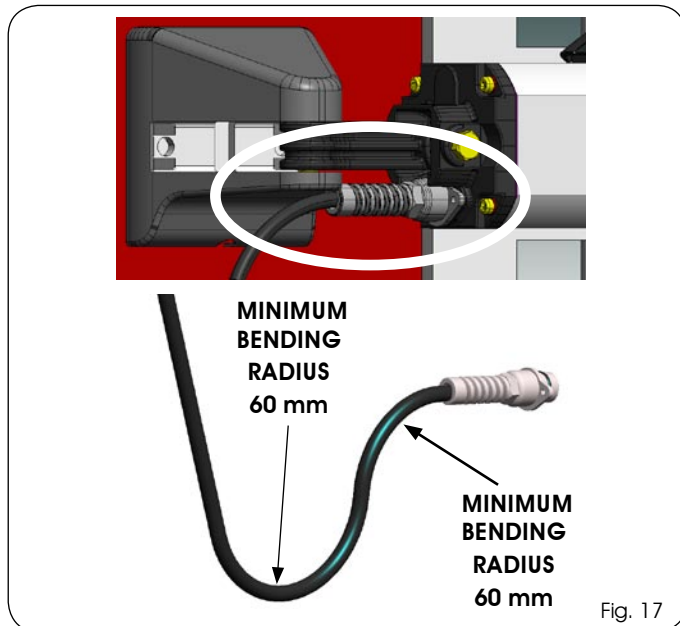

Fig. 17
17. Connect the cable to the operator using the two screws supplied, as shown in Fig. 17.